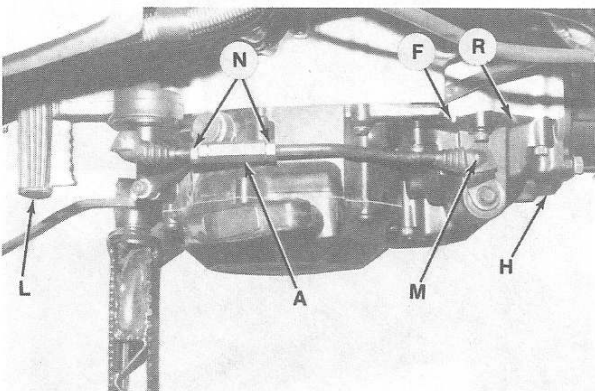

Fig. Y6-19—Rotate shift rod adjuster (A) so marks (F and R) on crankcase align with mark on shift arm cover. See text.
Model YTM200ERN is equipped with a reverse gear which is engaged by operating the forward-reverse shift lever (L—Fig. Y6-19). The shift linkage operates a dog clutch inside gear housing (H). The dog clutch engages either the forward or reverse gear. Forward gear is selected when the shift lever (L) is down while reverse gear is engaged when the shift lever is up. The transmission must be in first gear when shifting to reverse as a pin in the shift linkage must index in a hole in the transmission shift drum.